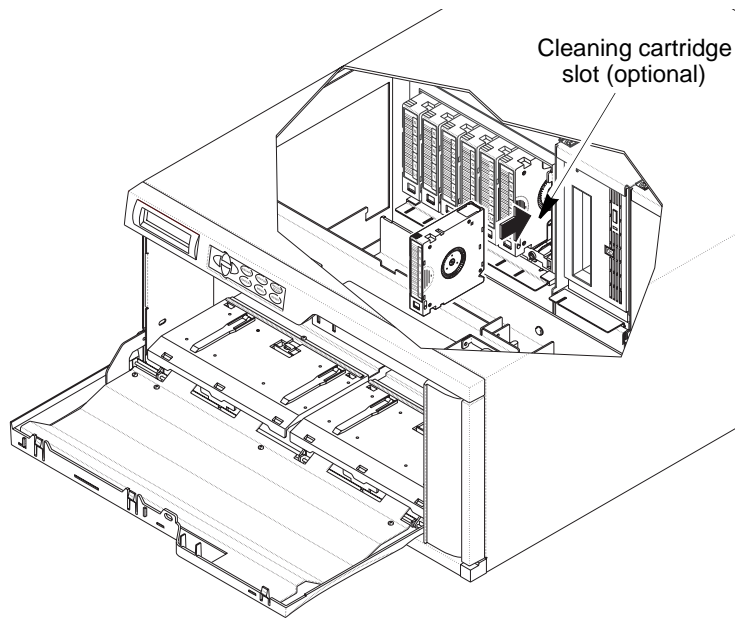

Figure 2-6 Installing a cleaning cartridge
4. If you plan to use a cleaning cartridge to clean the tape drive(s), place the cleaning cartridge in the fixed slot closest to the tape drive(s), as shown in Figure 2-6. To use this slot for a cleaning cartridge, you must set the Clean Slot option during library configuration (described on page 44).